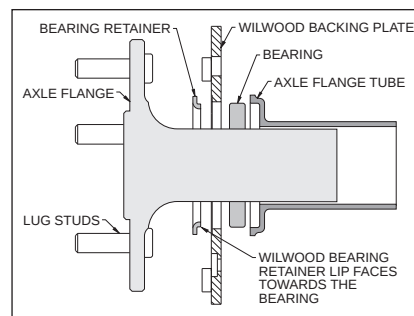

Figure 4. Retainer / Axle Diagram
- With the larger I.D. side of the rotor (4) facing away from the hat (3), bolt rotor (4) to hat (3) through the backside of the rotor using washers (5) and bolts (6). Using an alternating sequence, apply red *Loctite*® 271 to the threads and torque bolts to 140 in-lb. For an added measure of security, the bolts may be safety wired using standard 0.032 inch diameter stainless steel safety wire as shown in Figure 4. Please refer to Wilwood's data sheet DS-386 (available at www.wilwood.com/Pdf/DataSheets/ds386.pdf) for complete safety wire installation instructions.